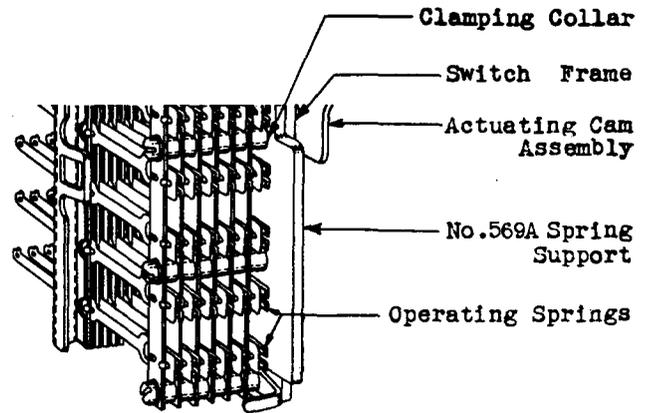

Fig. 2 - Position of Spring Support when Removing and Replacing Actuating Plate
3.09 Hinge, Hinge Pin and Actuating Plate: To replace any of these parts, proceed as follows. Loosen the switch mounting screws of the switch under consideration and the switch to the immediate right with the 4" regular screwdriver and shift the switches so as to allow as much room as possible between them. Take whatever precautions that are necessary to guard against shocks or injury from touching terminals on the rear of the switch under consideration and adjacent switches. Tighten the mounting screws securely. If enough space cannot be obtained in this manner, remove the mounting screws. Place the No. 569A spring support between the switch frame and the operating springs nearer the switch frame as shown in Fig. 2 so that the slots in the spring support engage the spring assembly clamping collars and the beveled edge is toward the contacts. Working from the terminal side, remove the hinge mounting nuts with the No. 544A wrench and remove the washers. Remove the hinges, hinge pin and actuating plate from the switch as an assembly, as follows. Hold the fingers of one hand under the lower end of the actuating plate. Remove the hinges from the hinge screws and place the fingers of the other hand on the top of the plate. Remove the plate from the switch. To replace a hinge, grasp the hinge pin firmly near the hinge to be replaced with the No.485A smooth jaw pliers and rotate the hinge on the pin with a back and forth motion until it can be slid off the hinge pin. Take care in doing this not to bend or damage the hinge pin. To replace the hinge pin, or actuating plate, remove both hinges and slide the hinge pin through the hinges on the actuating plate. When replacing the actuating plate, remove the actuating plate operating bar as outlined in 3.08 and mount the bar securely in place on the new actuating plate.